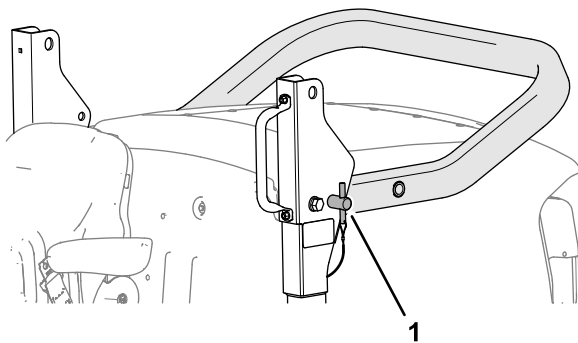

Figure 22
5. Insert the roll-bar pins in the lower holes of the pivot brackets (Figure 22).